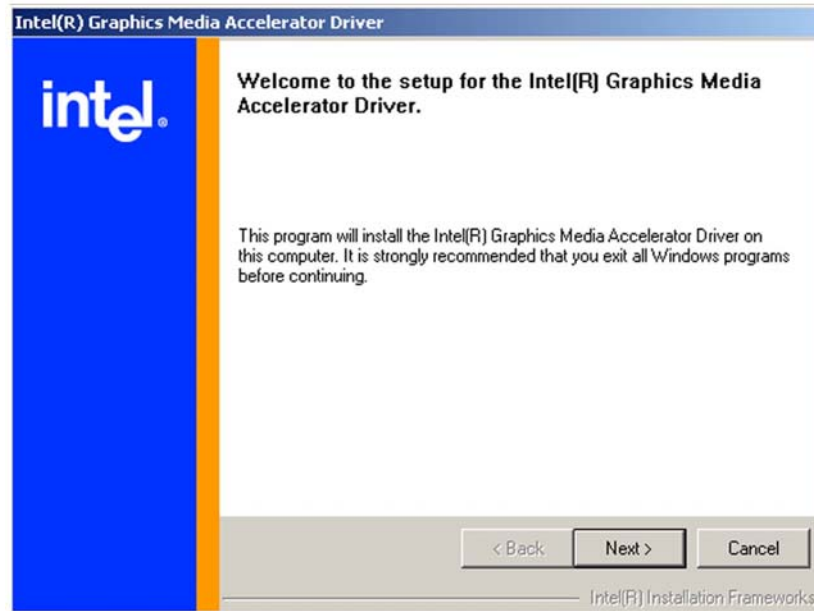

Figure 7-8: VGA Driver Installation Welcome Screen
Step 5: A Welcome screen shown in **Figure 7-8** appears. Click **NEXT** to continue the installation.